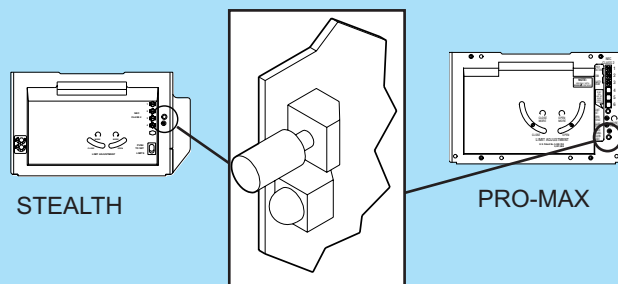

Fig. 9-1
1. **Program one-button remote (Fig. 9-1)**